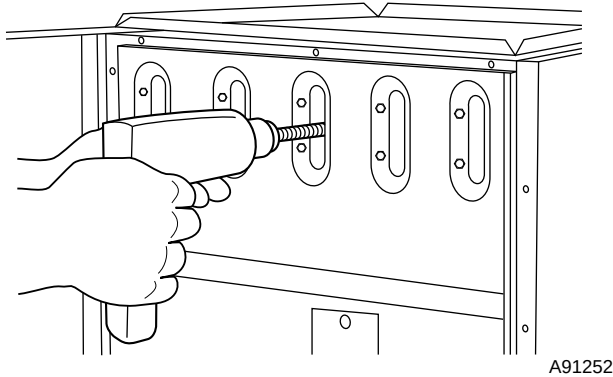

Fig. 7—Cleaning Heat Exchanger Cell
- (3.) Insert brush end of cable into upper opening of cell and slowly rotate with drill. **DO NOT** force cable. Gradually insert at least 36 in. of cable into 2 upper passes of cell. (See Fig. 7.)